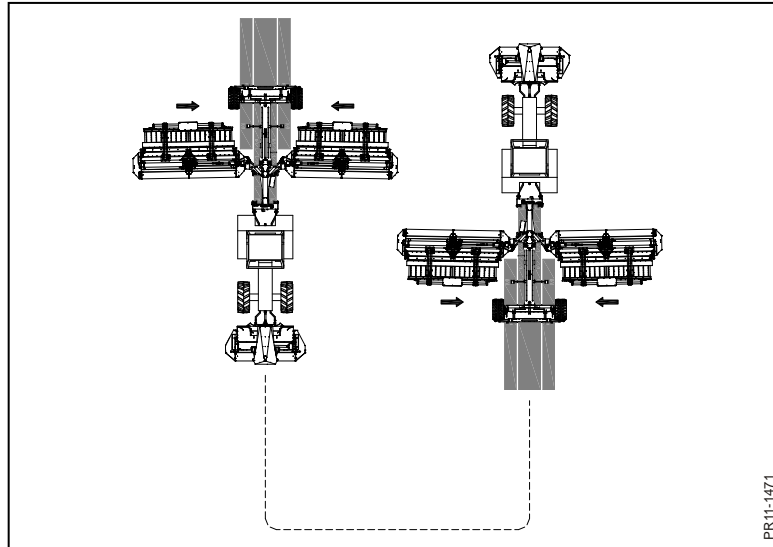

Fig. 3-17
**Fig. 3-17** When both Collector units are folded down, a swath is placed in the middle underneath the machine. The swath has a minimum width of 1.5 - 2.8 m. The minimum width of the double swath depends on the crop but also the speed of the conveyor belt. When 1 swath is laid in the middle underneath the machine, the belt units are active all the time.